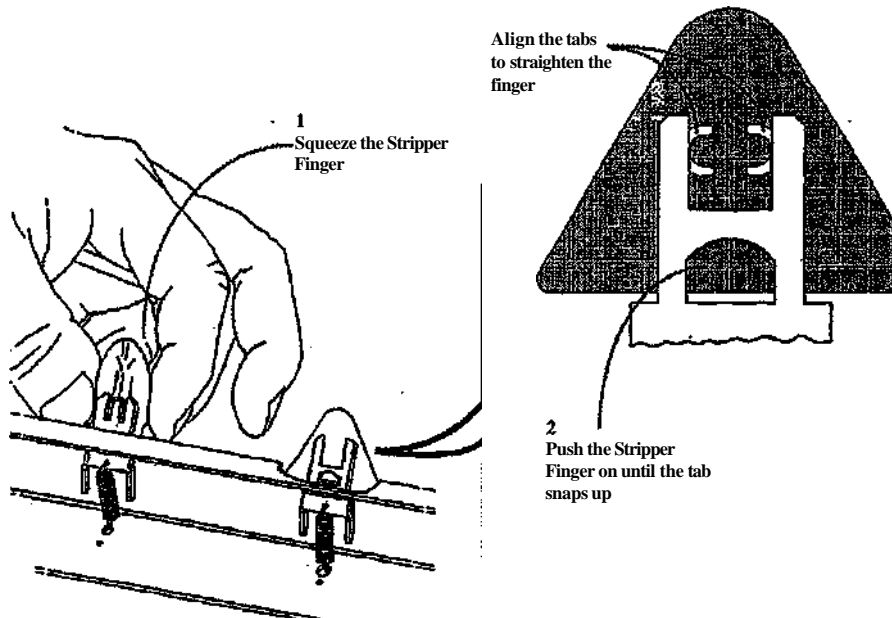

Figure 2. Reinstalling the Stripper Fingers
1. (Figure 2): Reinstall the Stripper Fingers.